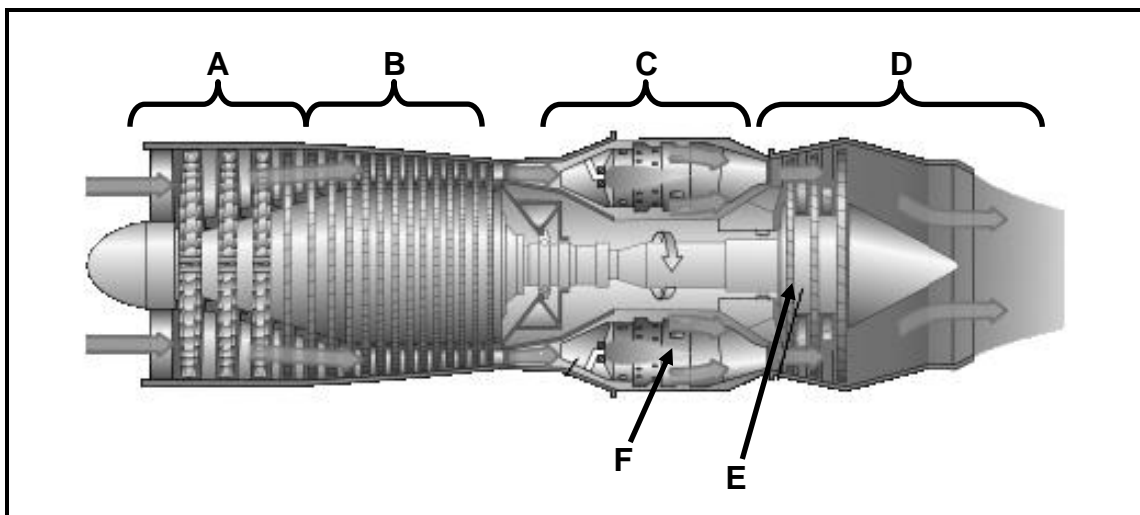

FIGURE 10.4
- 10.4 A gas turbine that is used as a jet engine is shown in FIGURE 10.4. Label **A–F**.